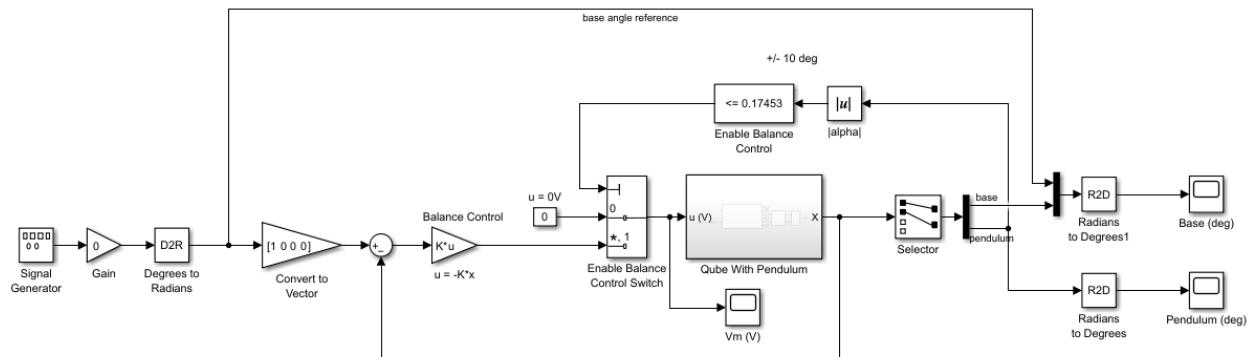

Figure 1: LQR pendulum balance control model
In this lab you will use the qs3\\_lqr\\_ctrl.slx file to complete the model as shown in Figure 1. This model will balance the Qube-Servo 3 rotary pendulum system using a generated control gain  $K$ .
7. Open the Simulink model `qs3_lqr_ctrl.slx`. We will try to construct the model in Figure 1.
9. Add a **Gain** (of 0) and a **Degrees to Radians** block as the desired input to the system as shown in Figure 1.
16. Connect your system so it now looks like the model in Figure 1.